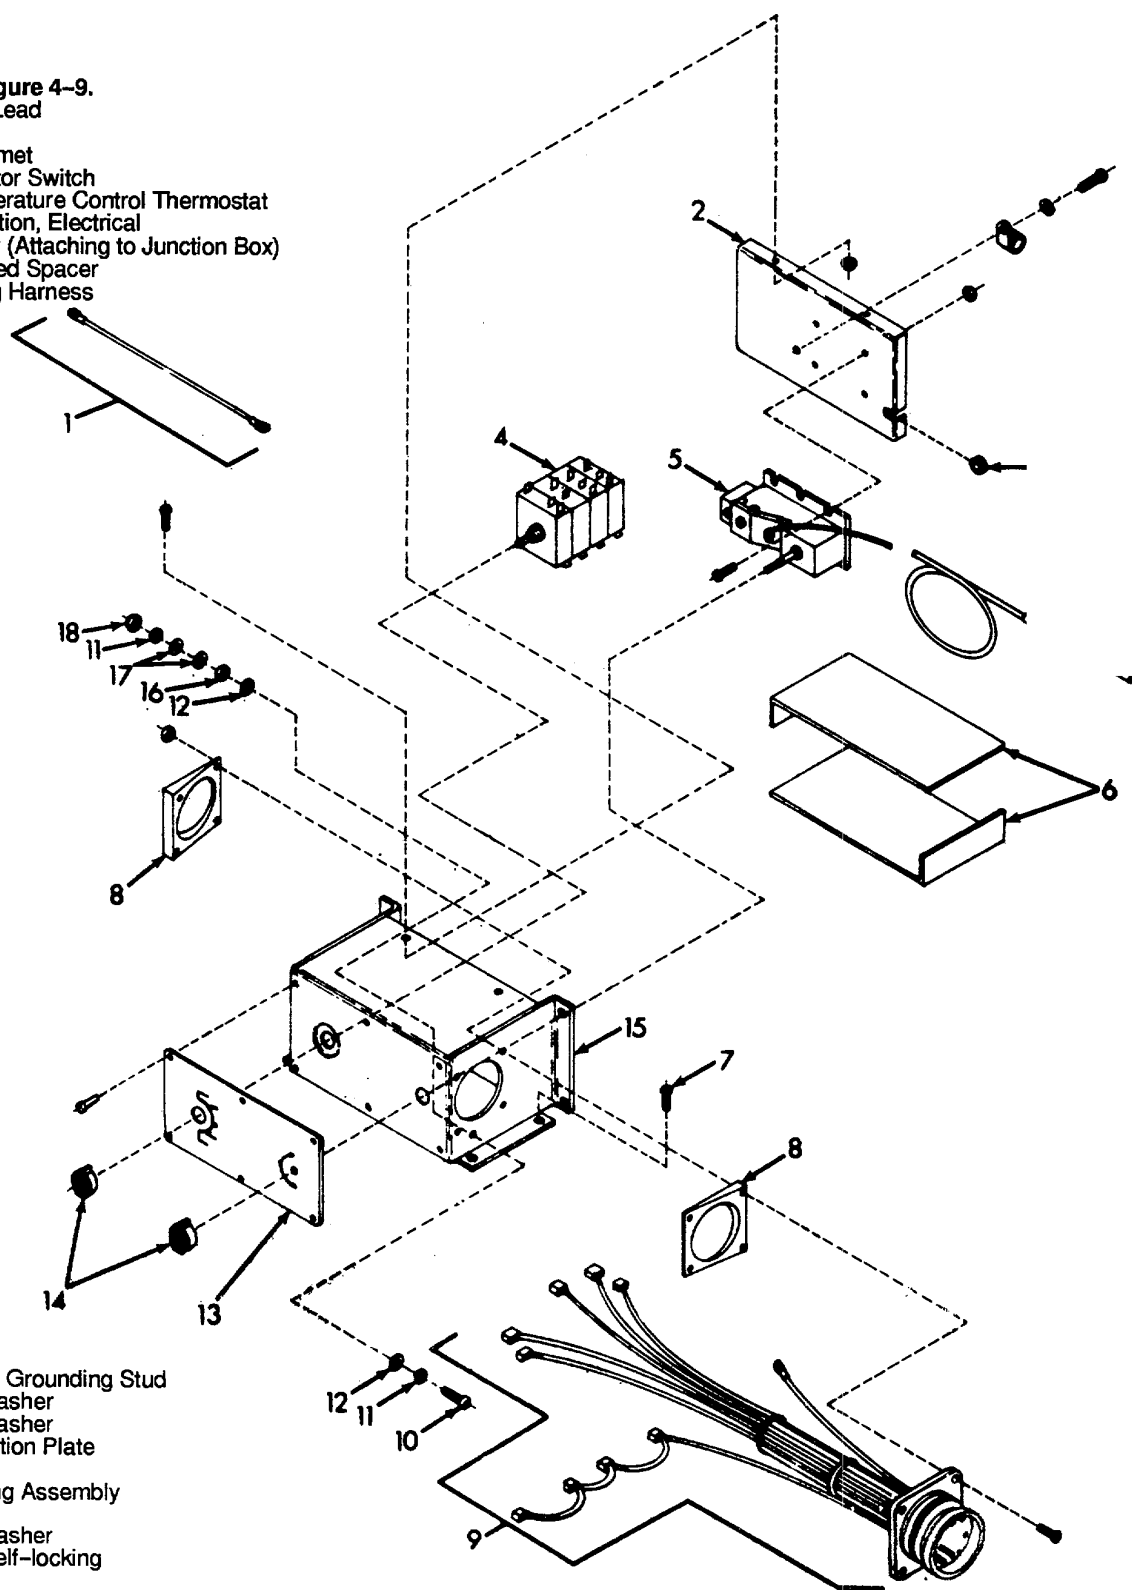

Figure 4-9. Control Panel Assembly
**a. General.** The control panel contains the mode selector switch, the temperature control thermostat and the electrical receptacle through which the controls are connected to the junction box. (See figure 4-9.)
- (1) Unscrew four panel fastener screws, three along the top edge, and one near the center of the panel, and remove the front access panel by pulling it upward and outward.
- (2) Remove 12 screws and washers from the frames of the evaporator intake grilles and remove the grilles.
- (3) Remove the self-locking nut and screw from the loop clamp holding the thermostat sensor bulb to the bottom of the air filter channel.
- (4) Disconnect wiring harness connector from receptacle on control panel assembly.
- (5) Remove four screws (7, figure 4-9) from the corners of the control panel mounting plange, and carefully withdraw the assembly from the unit.
**c. Disassembly.** Disassemble the control panel as directed in the following procedure: (See figure 4-9.)
- (1) Remove four screws and self-locking nuts from the rear cover of the control panel assembly.
- (2) Loosen the socket head setscrews in each of the knobs (14), and remove the knobs from their shafts.
- (3) Press the shaft of temperature control thermostat (5) inward to push the end of rear cover (2) out of box. Grasp the rear cover, and remove.
- (4) Tag wire leads for identification, and disconnect them from the temperature control thermostat.
- (5) Remove four screws and nuts from the mounting flange of the temperature control thermostat, and remove it from the rear cover (5).
***If the control panel has been placed in a remote location, remove screw nut and loop clamp from sensor bulb to release temperature control thermostat (5) from cover (2).***
- (6) Tag wires for identification, and disconnect them from the selector switch (4).
- (7) Remove the panel mounting nut and lock washer from the ferrule of the selector switch, and remove the switch.
- (8) Remove four screws and self-locking nuts from the corners of the receptacle of the wiring harness (9).
- (9) Remove one self-locking nut (18), two aluminum flat washers (17), two steel flat washers (11), two lock washers (12), a nut (18), and the grounding wire from the right-hand end of the box (15).
- (10) Withdraw the receptacle of the wiring harness (9) from the box, and remove two beveled spacers (8).
**KEY to Figure 4-9.**
(1) Lead the sensor bulb of the temperature control thermostat carefully through the hole in the casing partition. Attach it to the filter channel with a loop clamp, screw and self-locking nut. Split a grommet from the center out, and place around the capillary tube in the hole.
(2) Attach the control panel assembly (figure 4-9) to the mounting flanges on top of the junction box. Secure with four screws (7).
(3) Connect plugs of wiring harness to the receptacle on control panel assembly.
(4) Install the front access panel on the air conditioner by placing the lower edge behind the step of the base plate. Push panel into position, and secure with four captive panel fastener screws.
- (3) Detach circuit breaker actuator as following:
- (a) Loosen the screw in the core end fitting (14), and slide the fitting from core wire.
- (b) Remove two screws and lock washers from the cable hold-down clamp (16), and detach the cable from the actuator arm (15) and junction box.
- (4) Remove four screws (7, figure 4-9) from the corners of the control panel assembly, and stow the control panel assembly out of the way.